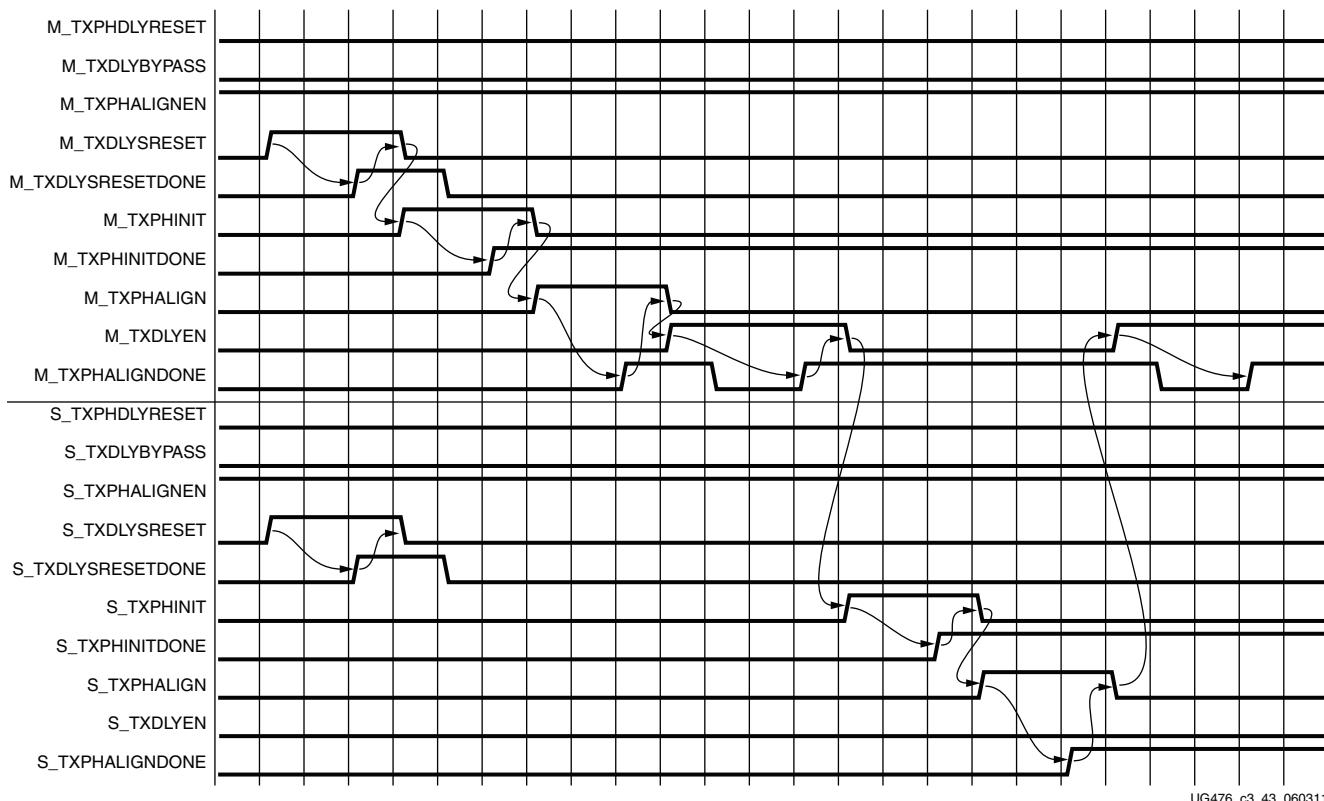

Figure 3-23: TX Phase and Delay Alignment in Manual Mode
Figure 3-23 shows the required steps to perform manual TX phase and delay alignment.
Notes relevant to Figure 3-23:
1. The sequence of events shown in Figure 3-23 is not drawn to scale.